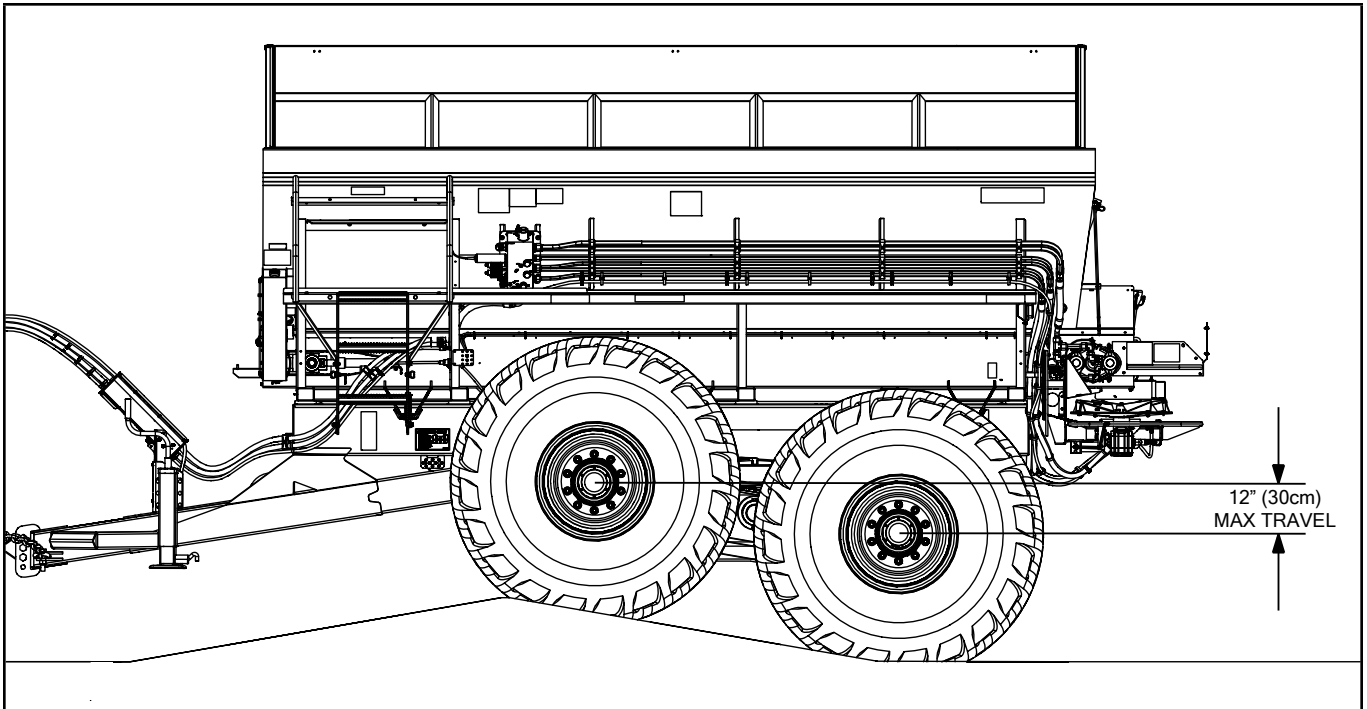

Figure 5 - Walking Beam Travel
3. Hook appropriately rated chain to both the left and right hand rear pulling lugs as shown in Figure 5.